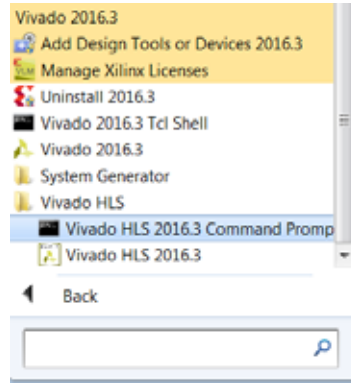

Figure 5-1: Vivado HLS Command Prompt
- a. On Windows use **Start > All Programs > Xilinx Design Tools > Vivado 2016.3 > Vivado HLS > Vivado HLS 2016.3 Command Prompt** (Figure 5-1).